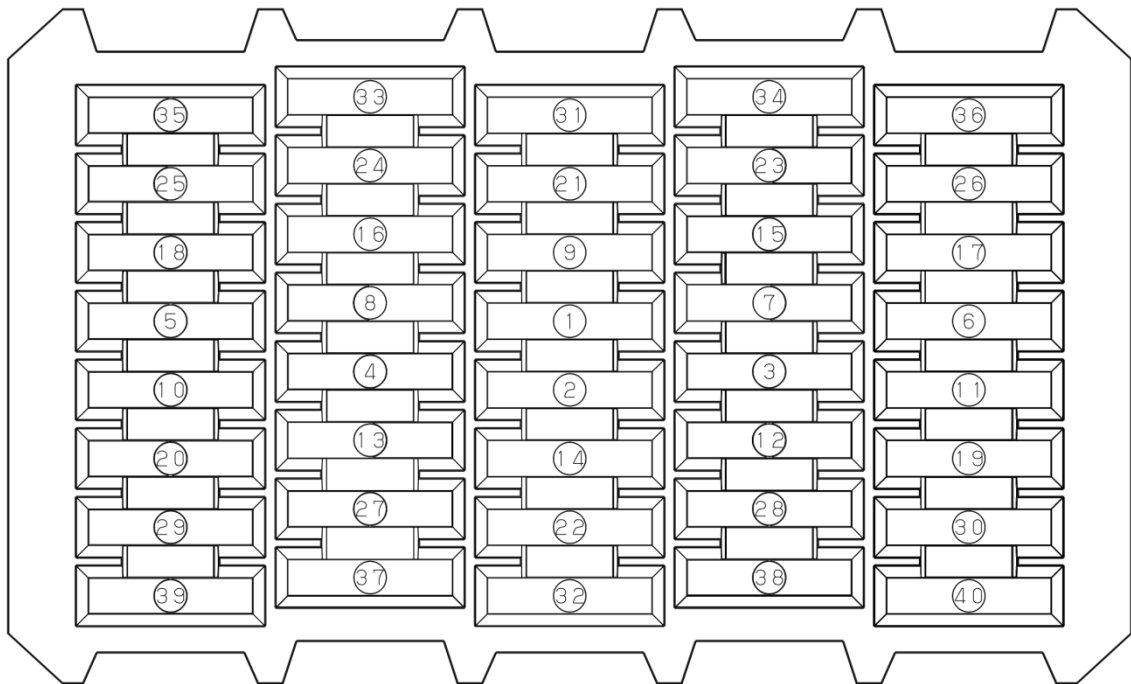

Figure 6.4 Fraction packaging
- (1) Put the conductivity bag (large) into the multi-box, in addition, put the cushion (lower) into the bag.
- (2) Put the bag packed HDDs into the cushion (lower).
- In the fraction shipment, empty the slots in the Figure 6.4 where figure is larger than the number of shipment, and fill other slots with the HDDs.
- (3) Put the desiccants between the conductivity bag (large) and the cushion (lower) in the box.
- (4) Put the cushion (upper) into the box.
- (5) Seal the conductivity bag (large) with the packaging tape.
- (6) Close the box with the packaging tape. (Attach the tape in 'H' figure at the top.)